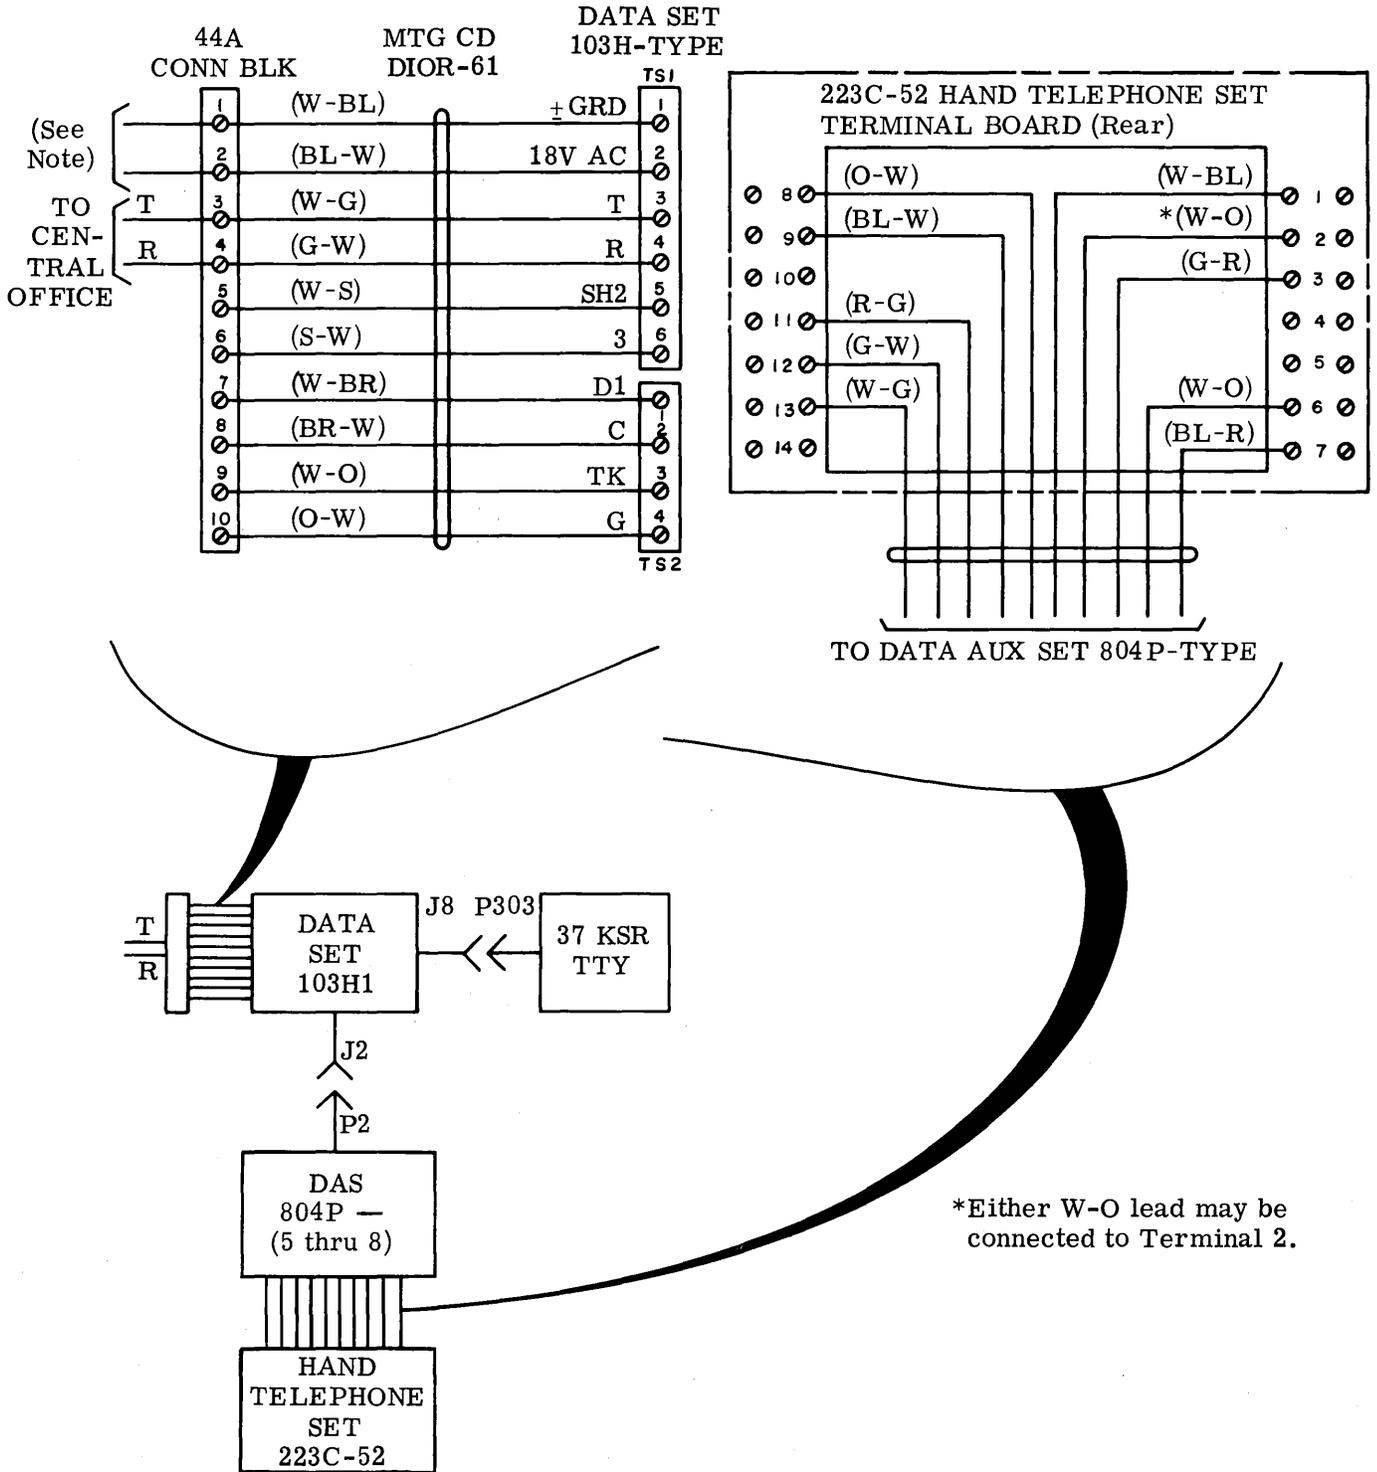

Figure 2 - Interconnection of 37 TTY KSR Data Station Components
2.03 Interconnections for the 37 TTY KSR data station components are shown in Figure 2. In addition, verify that all plugs and cables are properly connected and terminated. Use Table B as a guide in making this check.